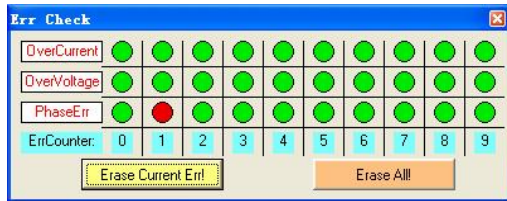

Figure 28: Error check window
- I **Error Check:** This window shows both the present status of each error event and their history. Current error event(s) can be reset by clicking **Erase Current Err!** button, and all error events can be reset by clicking **Erase All!** button. List of the last ten drive faults. #0 being the most recent, #9 is the oldest. See Figure 28.